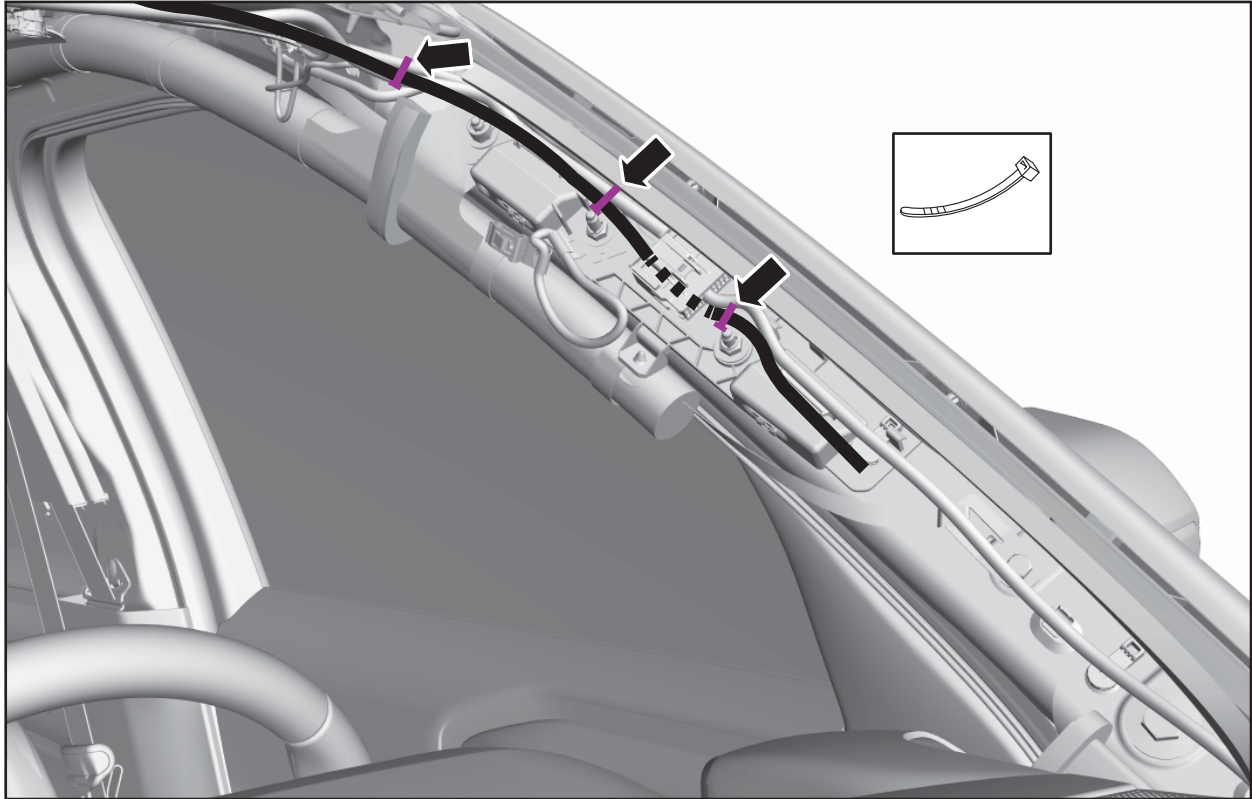

FIGURE 41
41. Route the wiring from the light bar downwards along the LH A-pillar. See Figure 41.